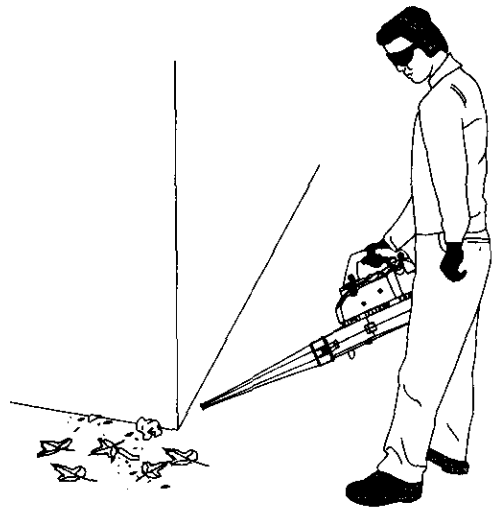

Fig. 13
1. Use the unit for cleaning debris away from driveways, walls and fences (Figs 13 & 14).